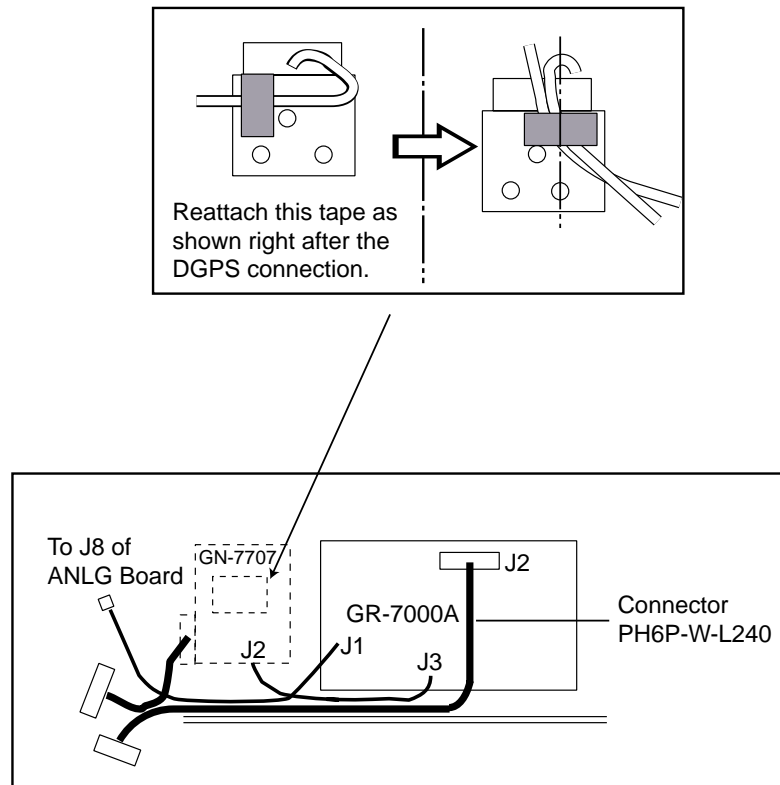

Figure 4-6 Wiring the Cable assembly
9. Connect J1 of GR-7000A to J8 of ANLG board (Refer to Figure 4-6).